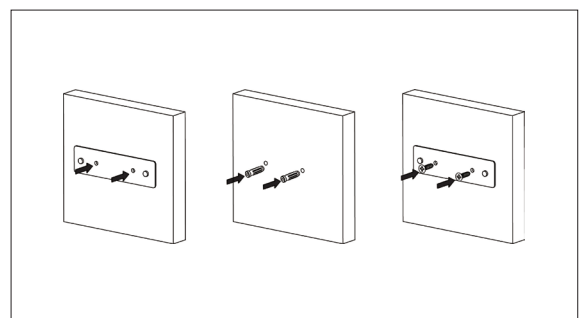

Figure 4
4. Find the mounting plate included in the package. Use the holes on the plate to mark a location on the wall. Figure 4.